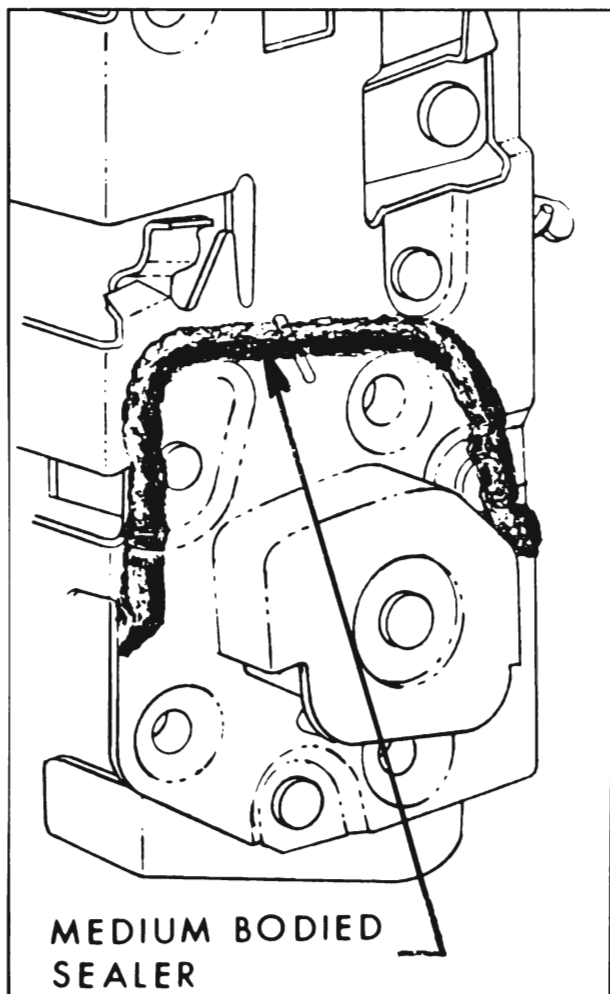

Figure 2-19—Front Door Lock Assembly
5. To install, reverse removal procedure. Prior to installation of lock assembly on "11", "37" and "67" styles, apply a ribbon of medium bodied sealer (approximately 1/4" in diameter) across face of lock frame. Check all for proper operation, and where loosened, adjust glass run channel for proper alignment prior to installing inner panel water deflector (see Figure 2-19).